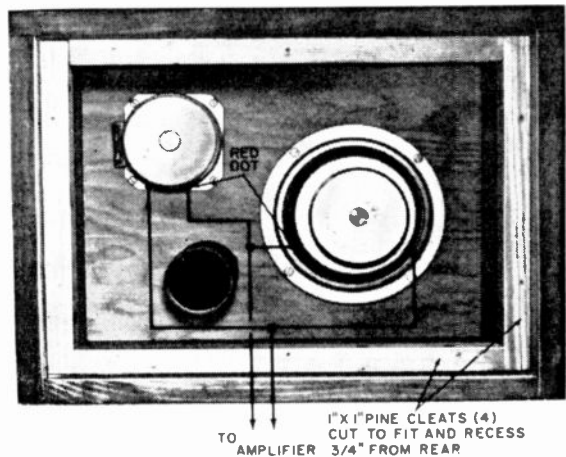

Fig. 2. Pine cleats hold rear board of enclosure in place. Proper speaker phasing is obtained only when red dots on speakers are wired common to each other.
**Assembly.** Set the speaker board  $\frac{3}{8}$ " back from the front edge of the enclosure's bottom board and glue and nail these two pieces together. Do the same for the top and both sides. Then sand and stain or paint all exterior surfaces—except the speaker board. When the paint or stain dries, mount the speakers over their respective cutouts and wire them according to Fig. 2.